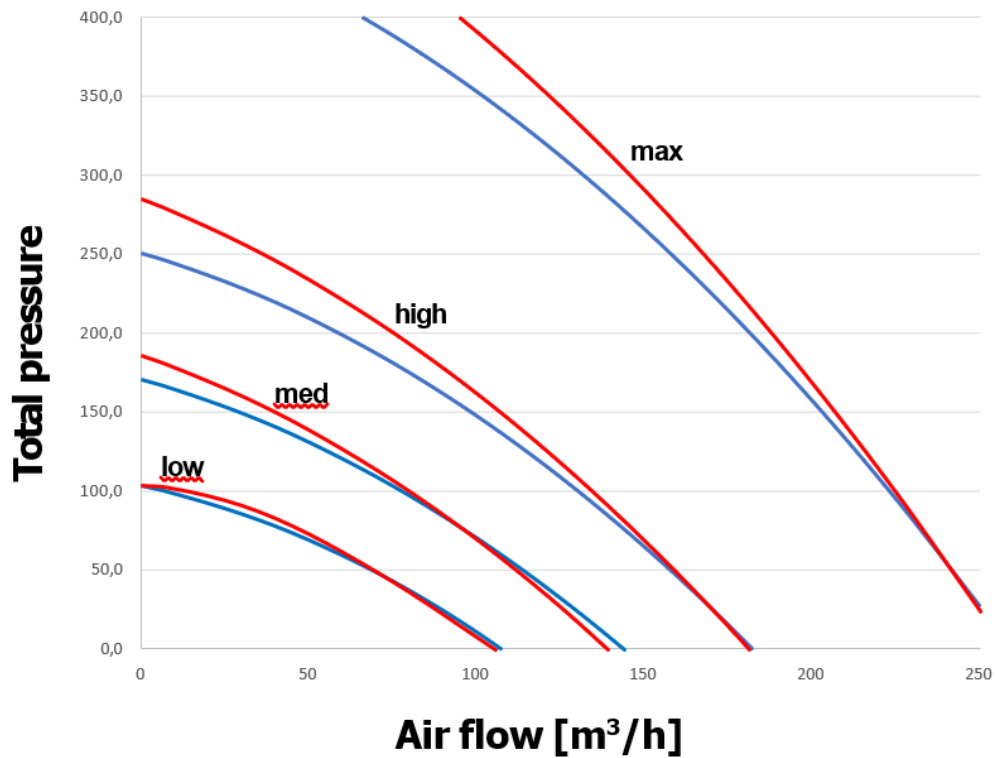

Figure 14. Total pressure for HRU-FlatAIR-225
- HRU-FlatAIR-225-H 225 m³/h (at 100 Pa) [Fig. 14]